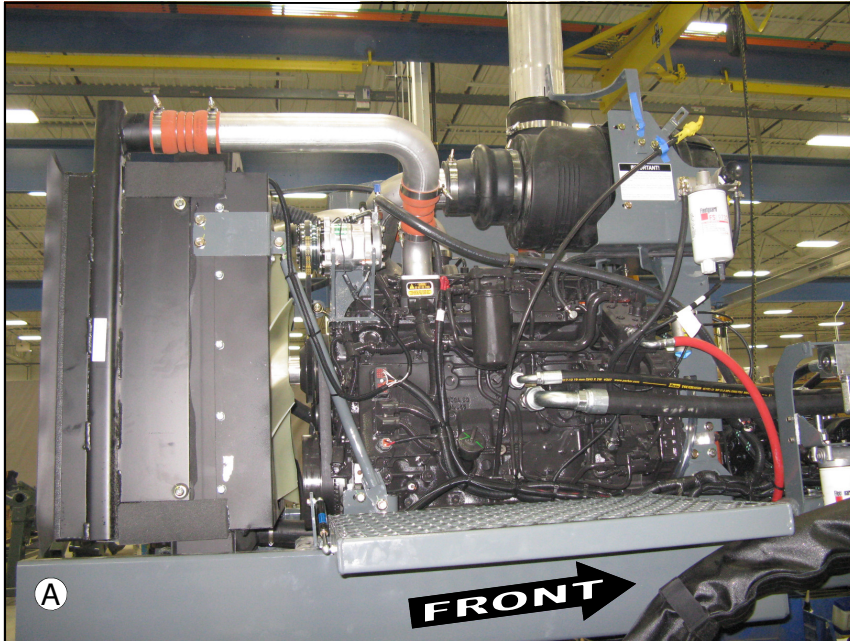
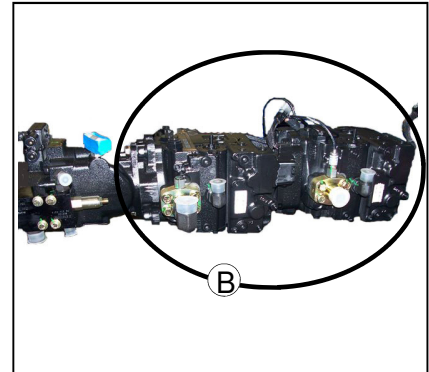

FIG. 4.15-1
FIG. 4.15-2
**CUMMINS ENGINE AND TANDEM PUMP**– The STS 10T comes standard with a 215hp Cummins diesel engine (fig. 4.15-1). The engine has a direct-mounted Sauer-Danfoss 90 Series tandem hydrostatic pump (fig. 4.15-2). More information on the operation of the engine is on the next page.